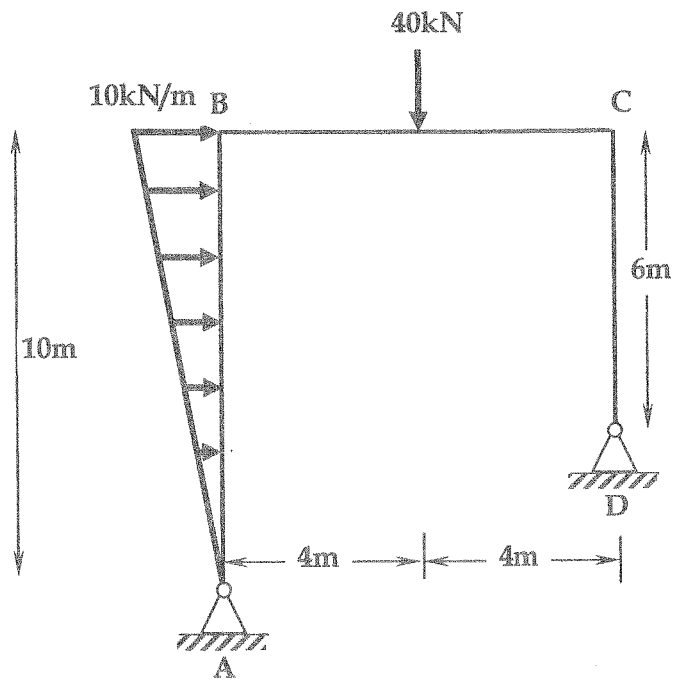

Figure Q5
- b) A portal frame (ABCD) is shown in Figure Q5. Frame supports a vertical load, 40 kN, at the centre of the beam BC. Member AB is subjected to a triangular distributed load of intensity zero at support A and 10 kN/m at B. Plastic moment capacity of the beam (BC) and columns (AB, CD) are 200 kNm and 150 kNm respectively. Determine;